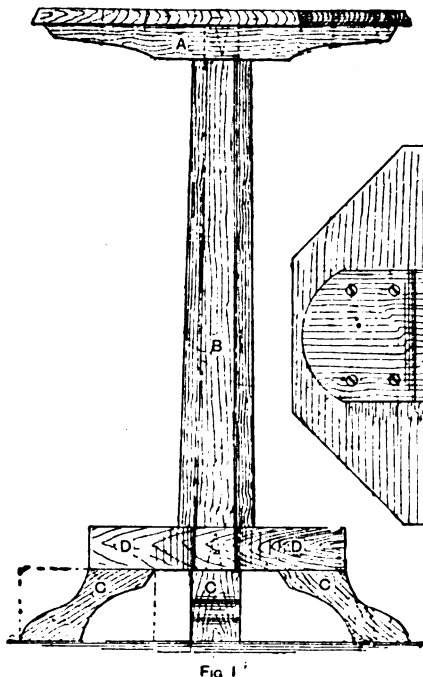
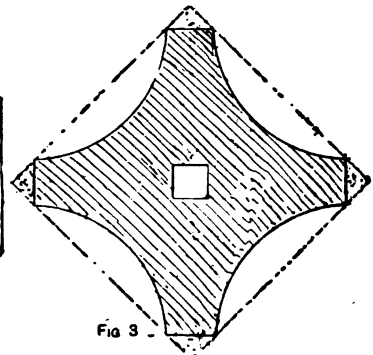

Fig. 1
Fig. 3
**Octagonal Table.**—Fig. 1 is the side elevation of a small octagonal table whose height is 2 ft. 5 in. The table top is made from  $\frac{1}{2}$ -in. stuff and may be shaped from a piece about 18 in. square, Fig. 2 showing the underneath plan. A piece about 16 in. by 5 in. by  $\frac{1}{2}$ -in. is mortised and shaped as shown at A (Figs. 1 and 2), and is fastened under the top by means of eight screws. A block 2 in. thick, shaped from a piece about 12 in. square to the form shown in Fig. 3, has also a mortise in its
mandril, which is generally of brass with an internal thread. The chuck is then re-turned and bored out to the size required, plus the thickness of two pieces of rubber or cork, which are shown at A (Fig. 2) and B (Fig. 3), and which grip the job. The opening C (Fig. 1) is then cut out, thus dividing the chuck into two parts, connected together at the base, but each capable of a small amount of spring at the point. To fasten any object in the chuck the iron ring D (Figs. 1 and 2) is tapped up farther on the sloping part E. The chuck shown by Fig. 3 is made in the same manner, and is intended for bowls of pipes and larger objects than can be inserted in Fig. 1. It is closed by the nut and bolt, and Fig. 4 shows its end. The peculiarly shaped chuck shown in Fig. 5 is made in iron, and though sometimes found useful by a pipe-maker is more properly a stick-maker's and mounter's requisite. The inside is cored out to one or the other of the dotted lines and the stick is held by the two wedges (Fig. 6), of which there should be several sizes. These wedges are slipped in the front of the tool; see Fig. 5.